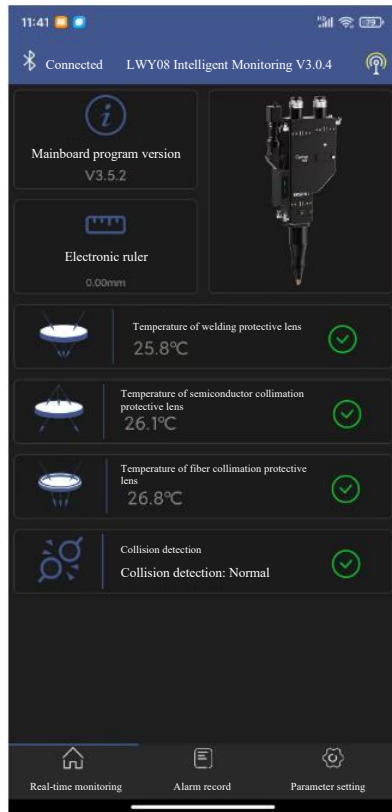

Figure 2.8
- ① Click the Bluetooth icon to open the Bluetooth connection interface, as shown in Figure 2.8.